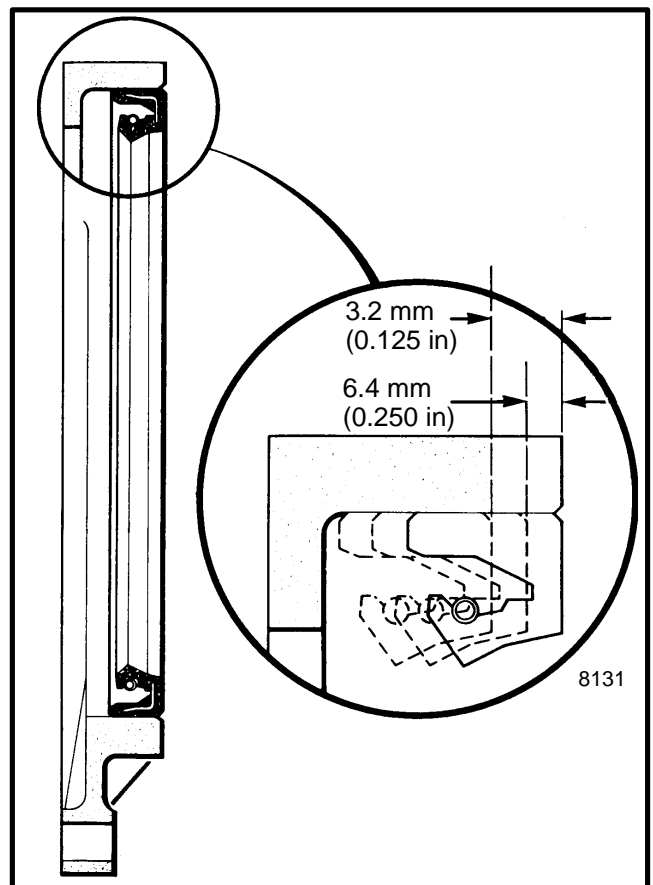

FIGURE 25. REAR OIL SEAL AND HOUSING
7. Install the new seal in the seal housing as shown in FIGURE 25. The seal must be installed so that the lip does not touch a groove in the crankshaft flange. Install a new gasket with sealant. Lubricate the seal and install the seal housing. Make sure the flange of the crankshaft is in the center of the seal.